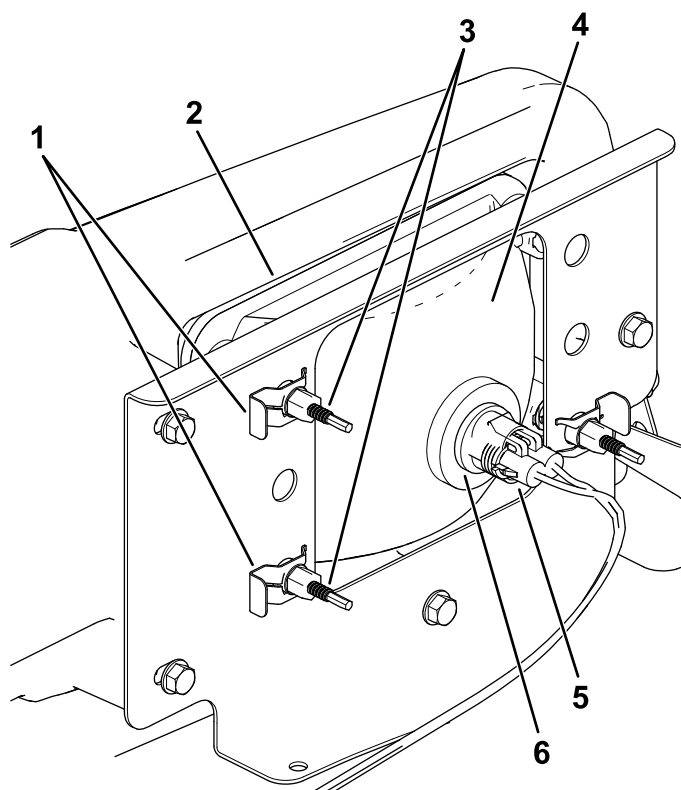

Figure 39
3. Disconnect the electrical connector for the harness from the connector of the lamp assembly (Figure 39).
- Remove the speed clips that secure the headlight to the headlight bracket (Figure 39).
- Remove the headlight assembly by moving it forward through the opening in the front bumper (Figure 39).
- Install the new headlight through the opening in the bumper (Figure 39).
- Connect the electrical connector for the harness to the connector of the lamp assembly (Figure 39).
- At the back of the headlight assembly, rotate adjustment screws (Figure 39) to pivot the headlight assembly and align the position of the cast beam.